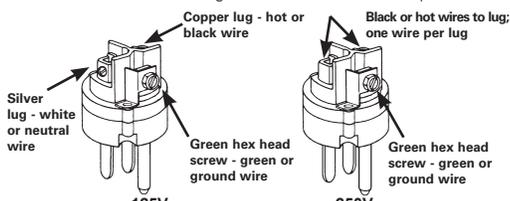

Figure 5
- Attach conductors (see Figure 5).